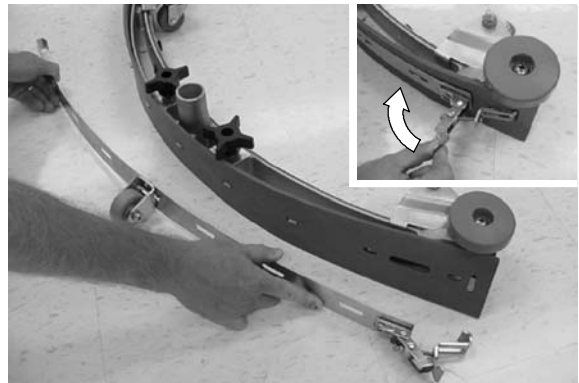

FIG. 36
2. Loosen the band clamp and remove the band from the squeegee assembly (Figure 36).